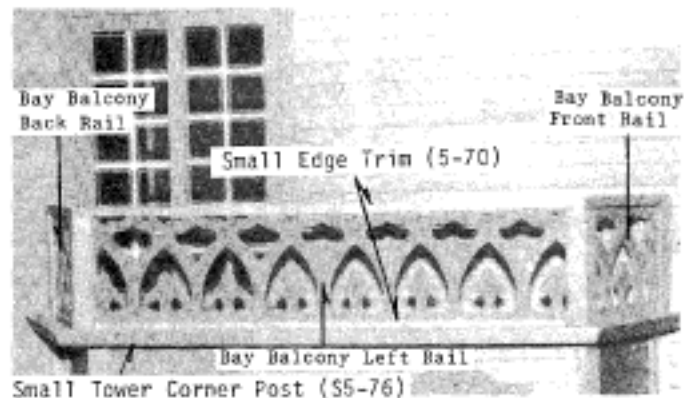

Figure 29
5. Assemble the Left Balcony Rail as in Figure 29.